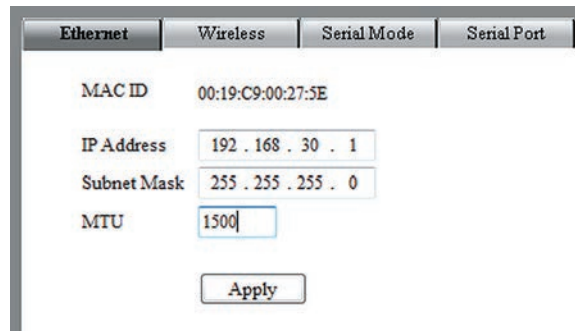

Figure 24. Wireless configuration dialog box.
STEP 7. The *Interfaces* screen will open. Click on the **Ethernet** tab. See Figure 24.